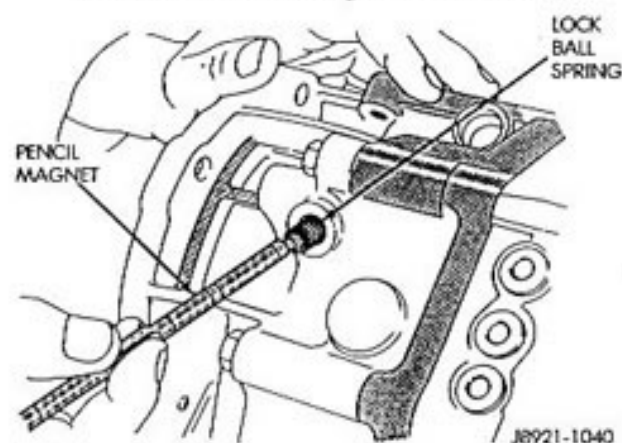

Fig. 10 Removing/Installing Lock Ball Spring
- (11) Remove the lock ball spring with a pencil magnet (Fig. 10).